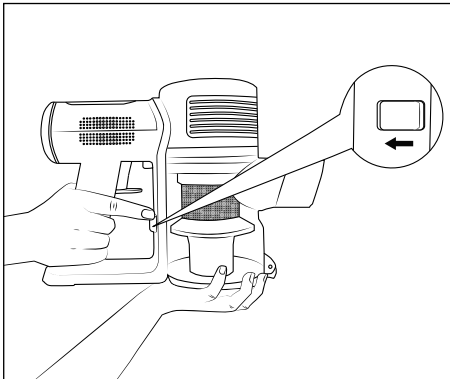

Fig. 17
- 2) To remove the dust container **7** from the appliance, hold the dust container **7** in one hand. Then use a finger of the other hand to slide the dust container release button **5** to the left (see Fig. 17). The dust container **7** comes free from the appliance.